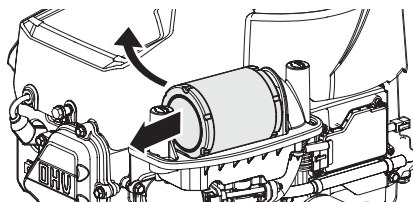

Figure 9
- Pull up on an angle and then forward to remove the air filter (Figure 9).